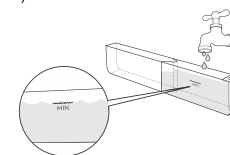

Fig. 12
- Fill the water container in the cavity as marked. (Fig. 12)